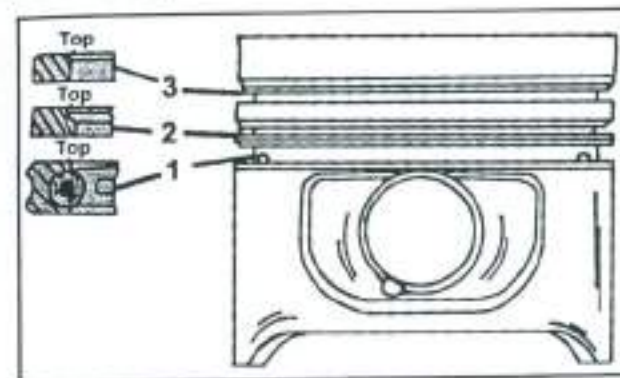

Fig. 1.40 - Sectional of a piston, concentrating on the piston rings.
• Using a pair of piston ring pliers, fit the piston rings from the top of the piston, starting with the bottom ring. The two compression rings could be mixed up and Figs. 1.40 should be referred to avoid mistakes. Under no circumstances mix-up the upper and lower compression rings.